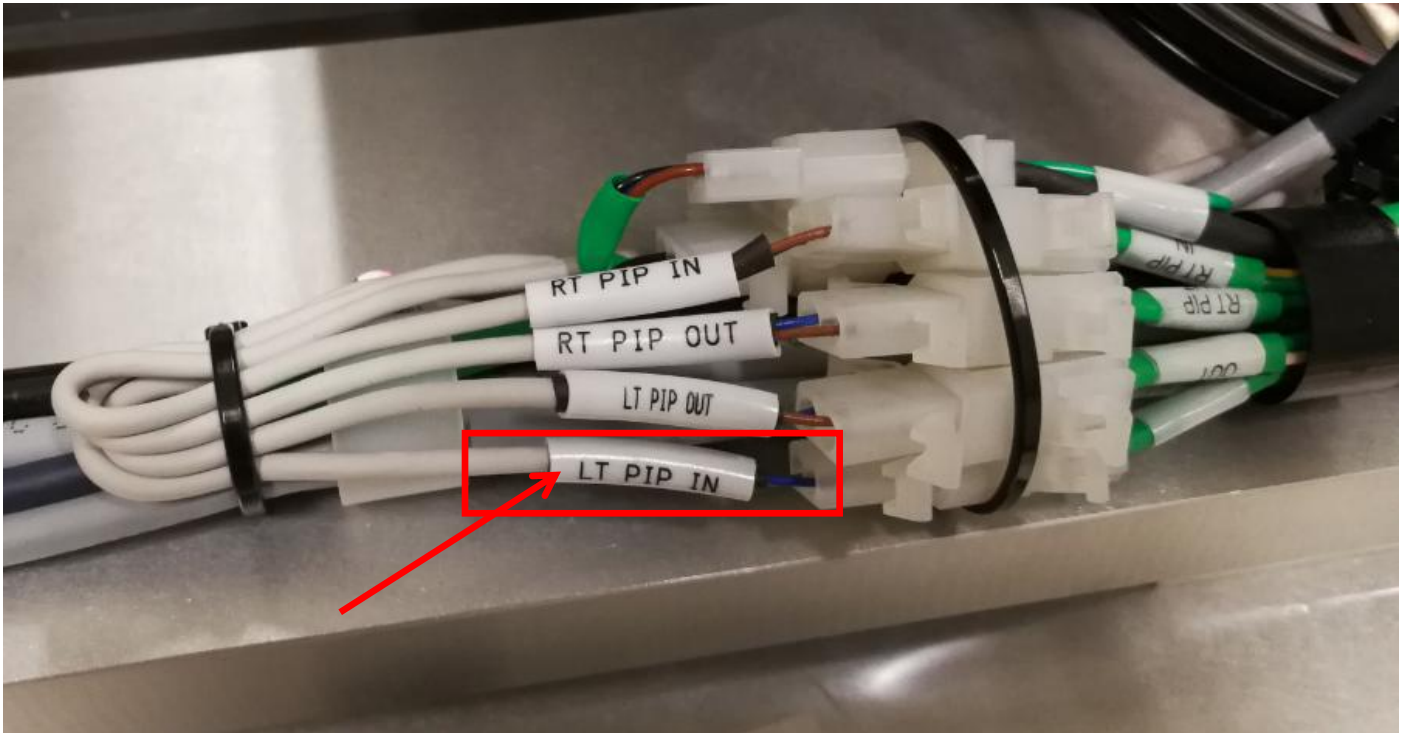

Figure 5 Left PIP In Connector Removal
6. Identify "LT PIP In Label".Unplug Left PIP In Reed Sensor Cable connector as Figure 5